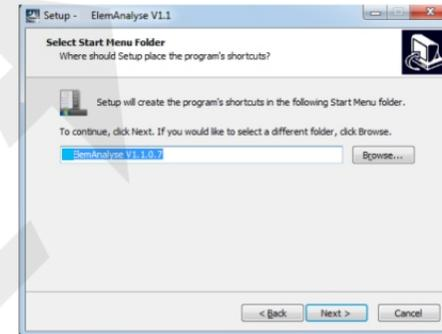

Figure 5-5
5. As shown in figure 5-5 interface, click the "next":